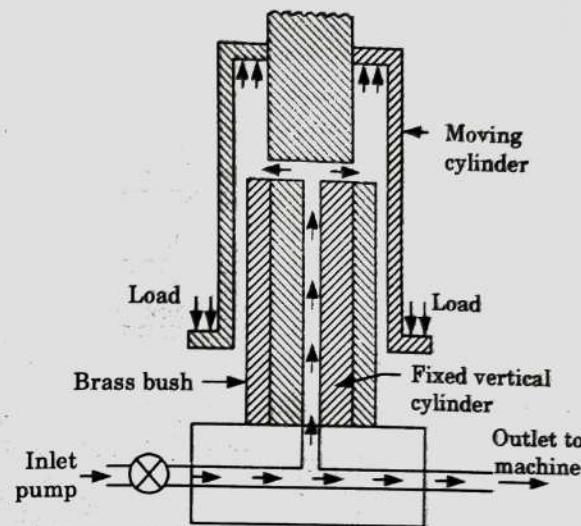

Fig. 3.23.1. Differential hydraulic accumulator.
1. It consists of a fixed vertical cylinder of small diameter as shown in Fig. 3.23.1.